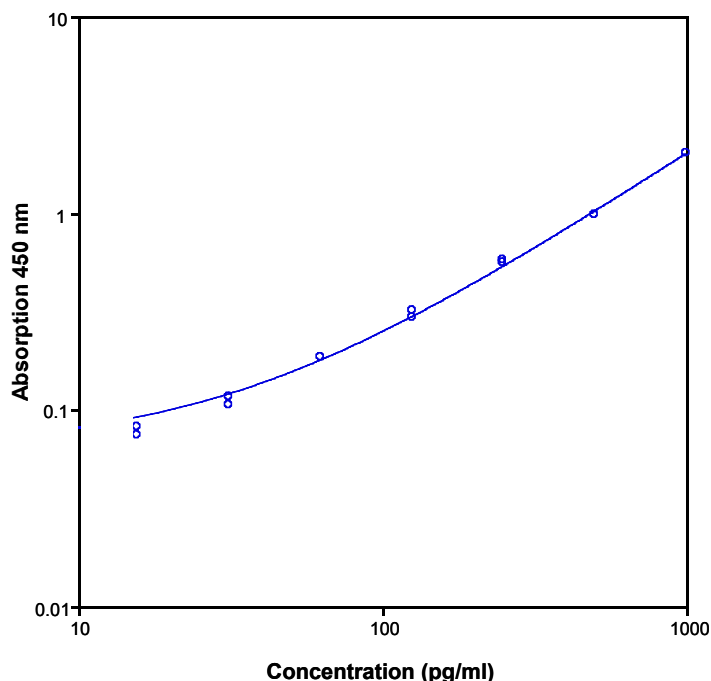

Fig. 8 Representative standard curve for Human TRAIL/TNFSF10 ELISA Kit. Human TRAIL/TNFSF10 was diluted in serial 2-fold steps in Sample Diluent.
- A representative standard curve is shown in Figure 8.